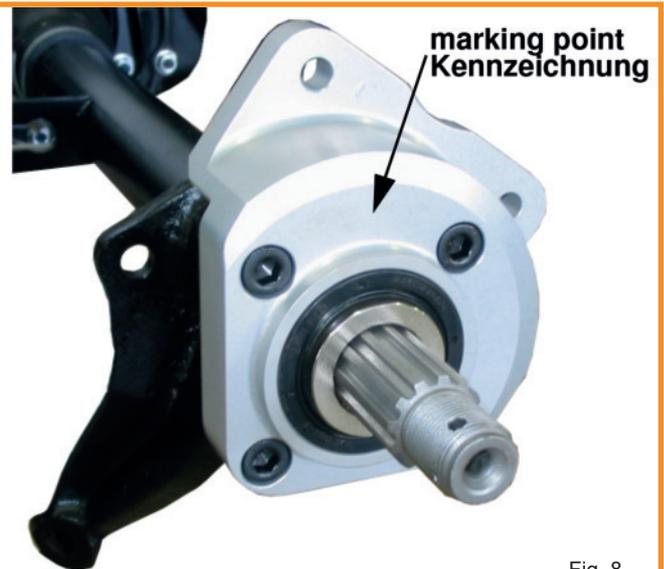

Fig. 8
- The caliper needs to be installed in the 2-o'clock position on the left and the 10-o'clock position on the right, as shown in picture Fig.8.
- Please note that the brackets are marked L and R as shown in picture Fig.8.